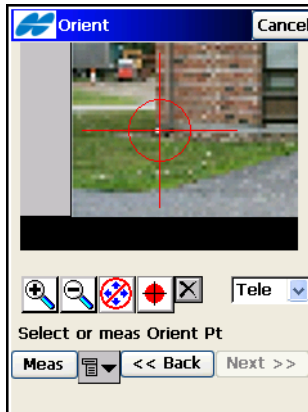

Figure 8-59. Select Orientation Point
- The Pan  button enables drag control of the image. When disabled , tap on the image in the general area of where the orientation point is located. The image will zoom to this point and show a crosshair (Figure 8-59 on page 8-53).
- *Tele* (telescope) is the default zoomed-in view of the crosshair (Figure 8-59)